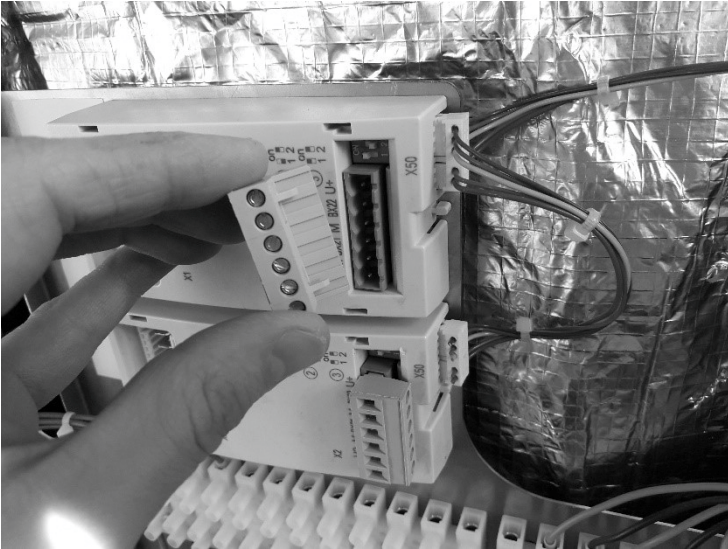

Figure 6: ELV connector
- ◆ If required, add the ELV connector (see Figure 6) to the extension module(s).